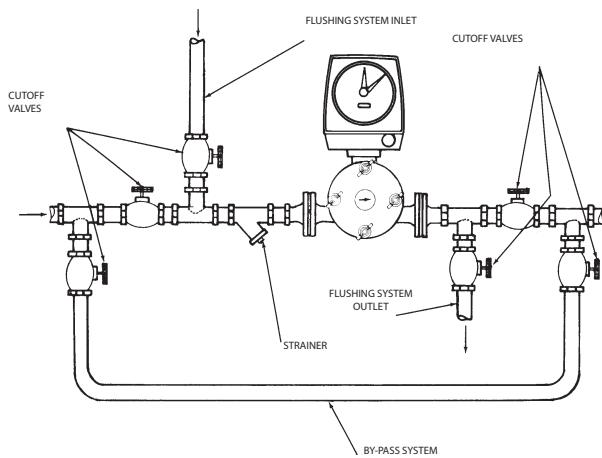

Figure 2: Installation configuration
5. In metering applications involving abrasive materials, slurries, or liquids that may leave a residue or buildup of deposits, a meter by-pass and flushing system should be incorporated into the facility piping installation to permit periodic clean-out of the meter. *Figure 2* illustrates a typical meter installation incorporating a bypass and flushing system.
NOTE: Always install meter in such a way that round cover is on a vertical plane, as shown on "*Figure 2*".
If the facility piping arrangement includes a meter bypass and flushing system (see "Figure 2"), shut off fluid flow to the meter and flush interior of meter housing with clean water to remove any buildup of deposits or corrosion. If a bypass and flushing system is not included in the metering application, remove the meter housing cover and inspect the measuring chamber, piston and associated parts for any buildup of deposits or corrosion. Clean and flush parts with water or a suitable solvent that will not adversely affect the plastic components.